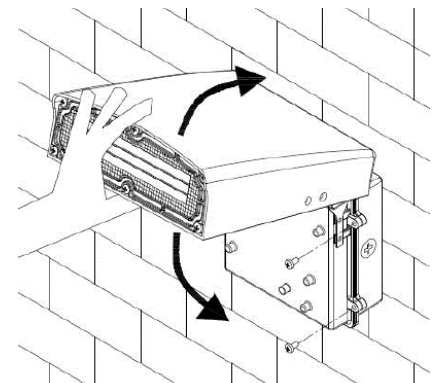

FIG. 6
- 8) Close fixture and tighten the 2 screws (figure 6). Adjust fixture to desired angle.